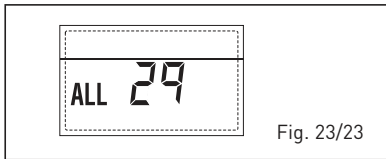

Fig. 23/23
- ANOMALIE SONDE RETOUR CHAUFFAGE "ALL 30" (fig. 23/24)